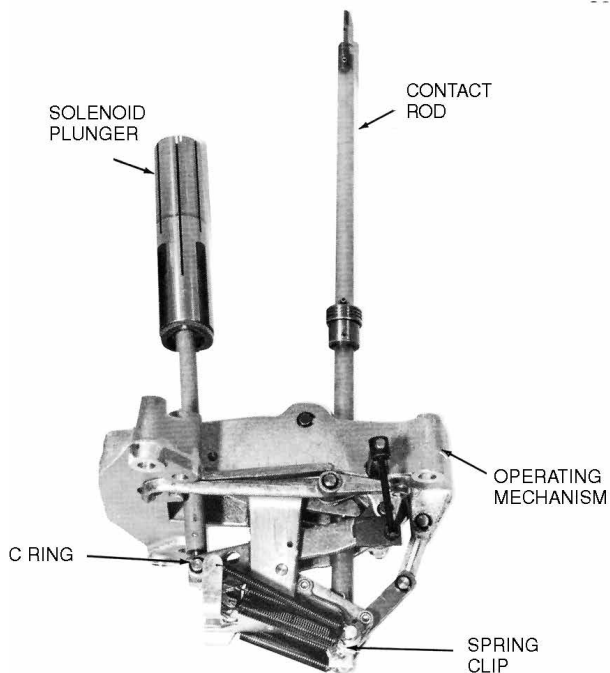

Figure 50. Releasing plunger and contact rod
4. Remove C ring (Figure 50) and pull pin that secures the solenoid plunger to the operating mechanism. Then pull off spring clip and remove pin that secures the contact rod.
5. Connect solenoid plunger and contact rod to the operating mechanism. Bolt operating mechanism in the position shown in Figure 50.